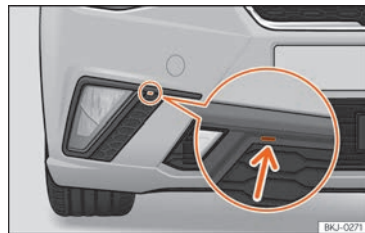

Fig. 165 Fog light: remove the grille
- Lever the groove with a screwdriver >>> Fig. 165 (arrow). Next, remove the clips located on the edge of the grill, levering them gently.